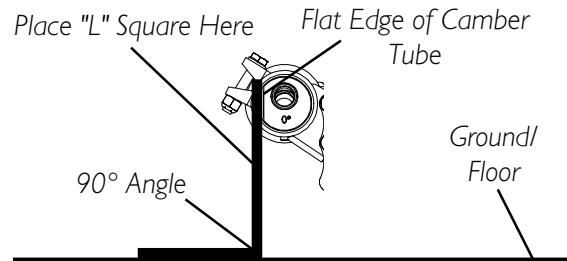

FIGURE 17 - ADJUSTING THE AXLE TUBE - CAMBER TUBE 2000
CAMBER TUBE 2000 (FIGURE 17)
2. Using an "L" square, rotate the axle tube until the flat edge of the camber tube is at a 90° angle with the ground/floor as shown in FIGURE 17.